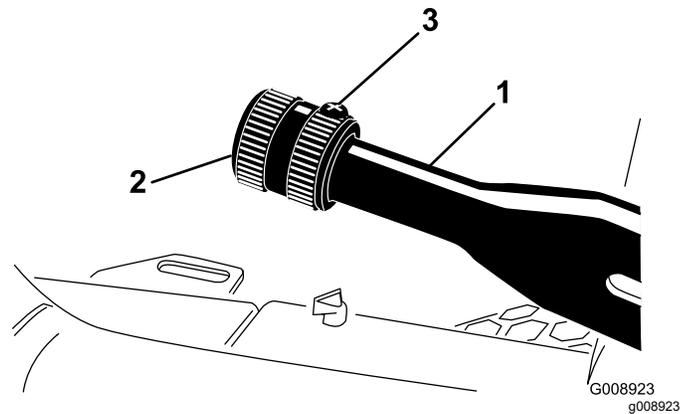

Figure 75
2. Loosen the setscrew securing the knob to the parking-brake lever (Figure 75).